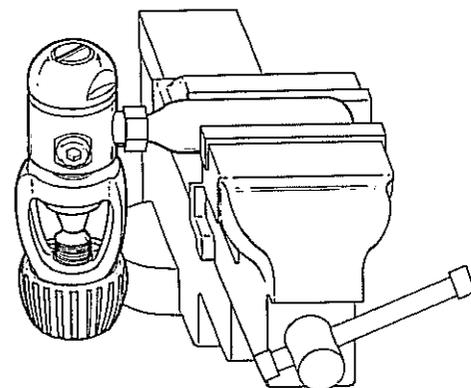

FIGURE 1
6. Screw an empty CO2 cartridge clockwise into a low-pressure adapter (Item 52). Then screw the adapter and cartridge clockwise into one of the low-pressure ports on the first-stage body (Item 1). Mount the first-stage body in a bench vise, main-spring side facing upward, by means of the CO2 cartridge. (See Figure 1).